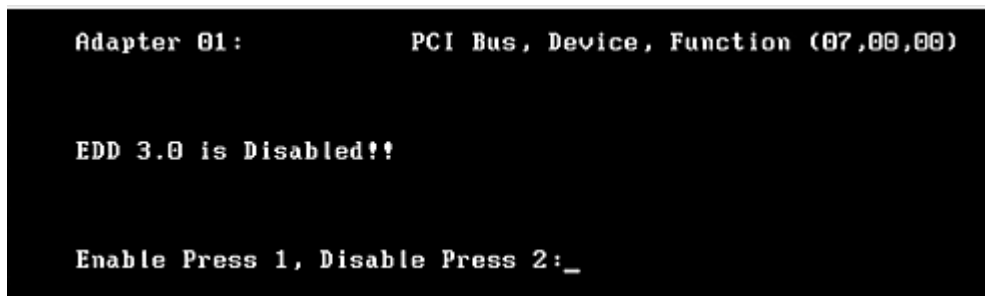

Figure 15: Enable or Disable EDD 3.0 screen
2. Select <7>, Enable or Disable EDD 3.0 (+Advanced Option+). Figure 15 is displayed.